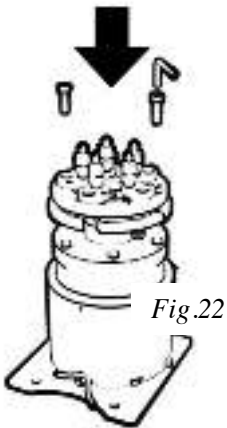

Fig.22
- Fit the flange onto the turntable. Make sure to position it properly. Secure the flange using two bolts supplied (ref. fig.22).